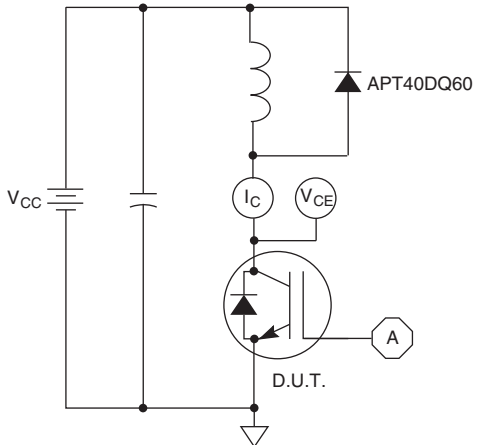

Figure 21, Inductive Switching Test Circuit
① Repetitive Rating: Pulse width limited by maximum junction temperature.
② For Combi devices, I_{ces} includes both IGBT and FRED leakages
③ See MIL-STD-750 Method 3471.
④ E_{on1} is the clamped inductive turn-on energy of the IGBT only, without the effect of a commutating diode reverse recovery current adding to the IGBT turn-on loss. Tested in inductive switching test circuit shown in figure 21, but with a Silicon Carbide diode.
⑤ E_{on2} is the clamped inductive turn-on energy that includes a commutating diode reverse recovery current in the IGBT turn-on switching loss. (See Figures 21, 22.)
⑥ E_{off} is the clamped inductive turn-off energy measured in accordance with JEDEC standard JESD24-1. (See Figures 21, 23.)
⑦ R_G is external gate resistance, not including $R_{G(int)}$ nor gate driver impedance. (MIC4452)
⑧ Continuous current limited by package lead temperature.